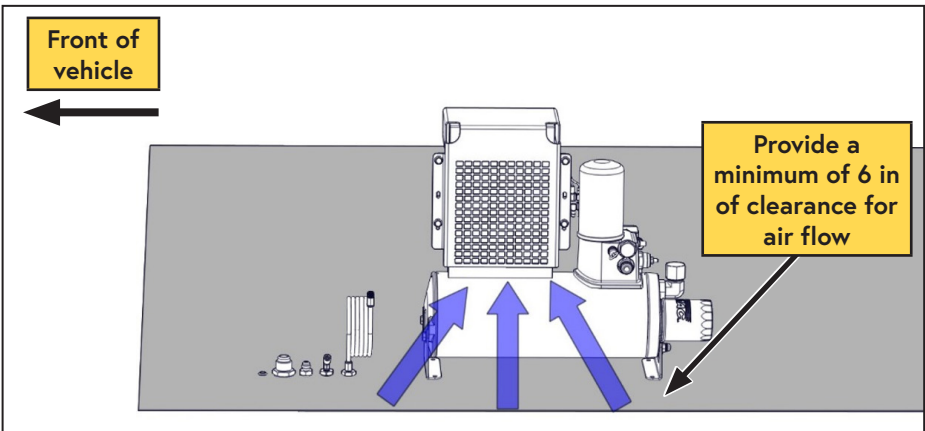

Figure 44 — WHASP ventilation
**A minimum of 6 in of clearance is recommended around the radiator (intake) side of the WHASP Tank to allow fresh, cool air to circulate into the cooler and fan (Figure 44).**